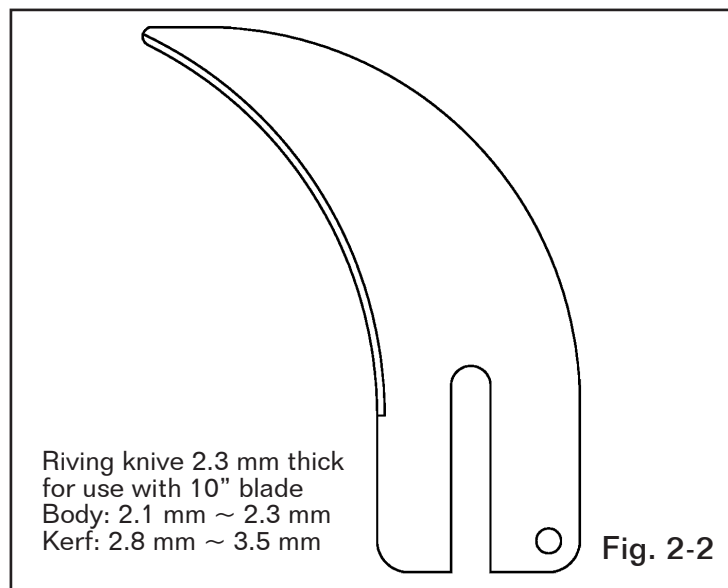
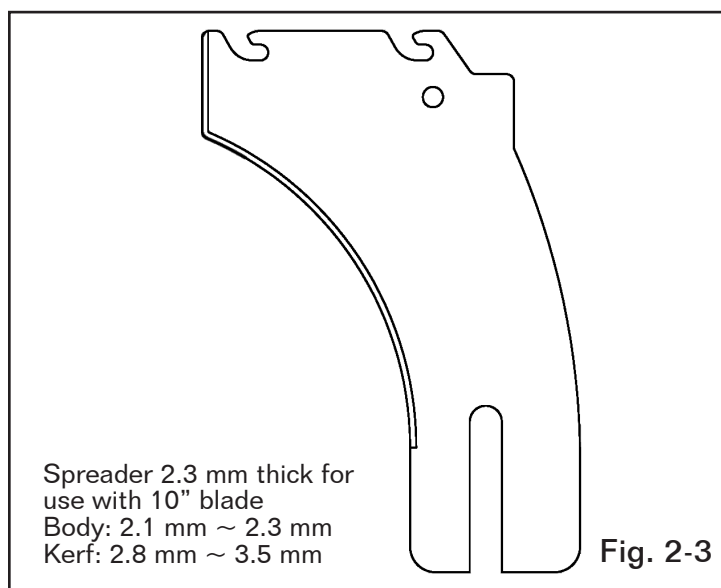

Fig. 2-2
Fig. 2-3
2. Please use the standard blade according to the specification mark on the blade as Fig.2-2 & Fig.2-3: